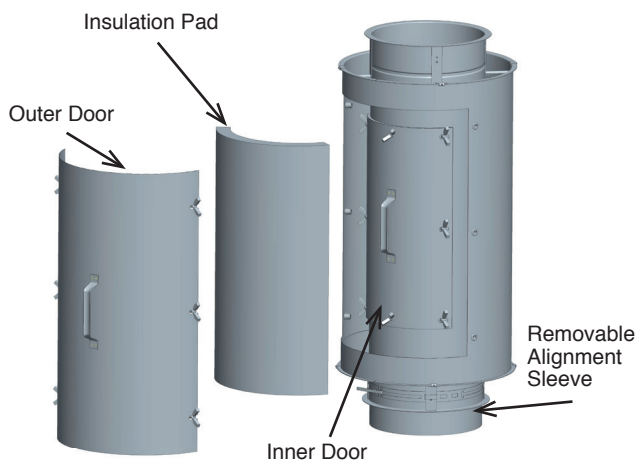

Figure 86: Step 1-3 of Removal for Inspection for the ADL
- 3- Remove the insulation pad and set it in a safe place during the inspection. See **Figure 86**.